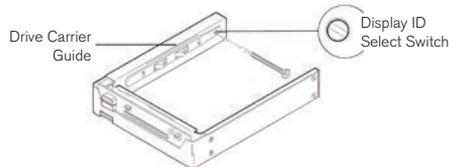

Figure 1. Display ID Switch Location
- b. Use the provided flathead screwdriver to select the display ID number (see Figure 1). Rotating the switch will cycle the display through 1-9 and A-F.